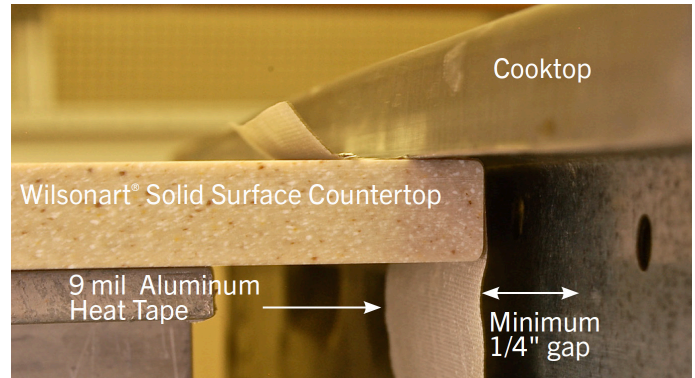

Figure 30A
- Tape must extend past the edge of cooktop flange. Trim excess (FIG. 30A & 31A)
- A minimum 1/4" (6.4mm) gap is required between edge of cutout and cooktop. (FIG. 30A)